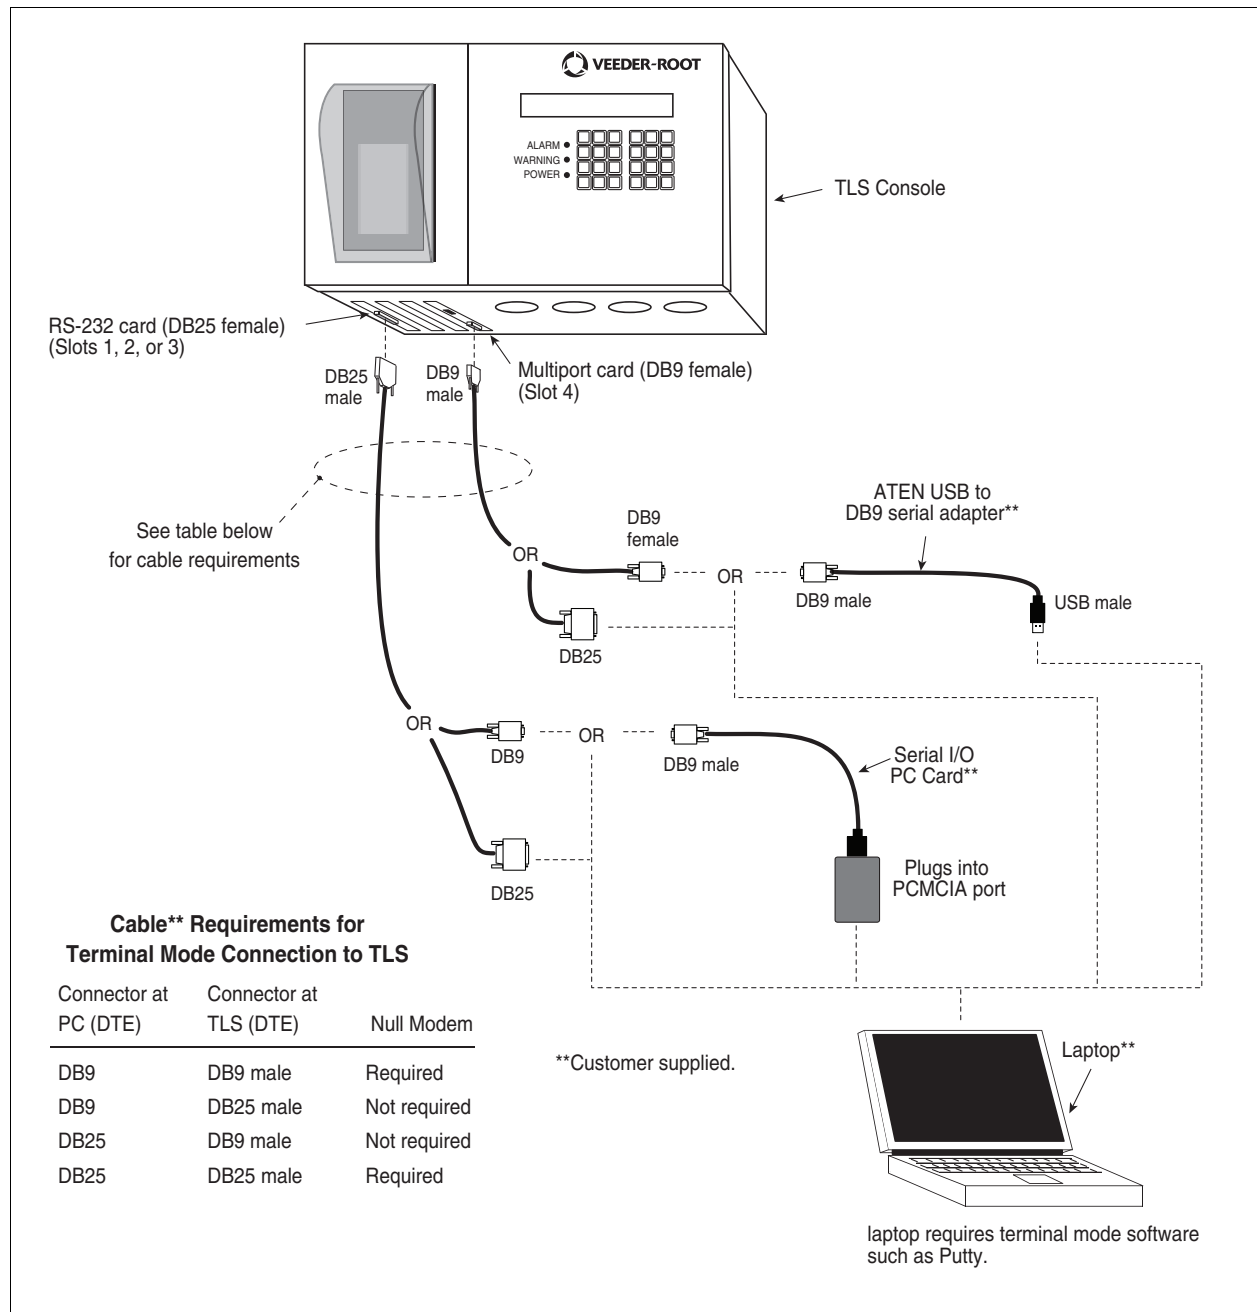

Figure 31. Connecting laptop to TLS console for serial communication
1. Connect your laptop to the TLS console's RS-232 or Multiport card using one of the methods shown in the examples in Figure 31 below.